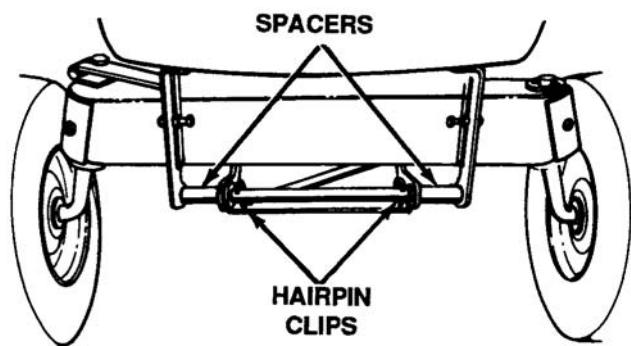

Figure 8-32. Disassembling Cross Bar
8. Disassemble the front cross bar from the tractor by removing two hairpin clips. Use the cross bar to attach the deck stabilizers, the diagonal brace and two spacers to the tractor frame, using the forward set of holes. Secure with the two hairpin clips just removed. See Figure 8-32.